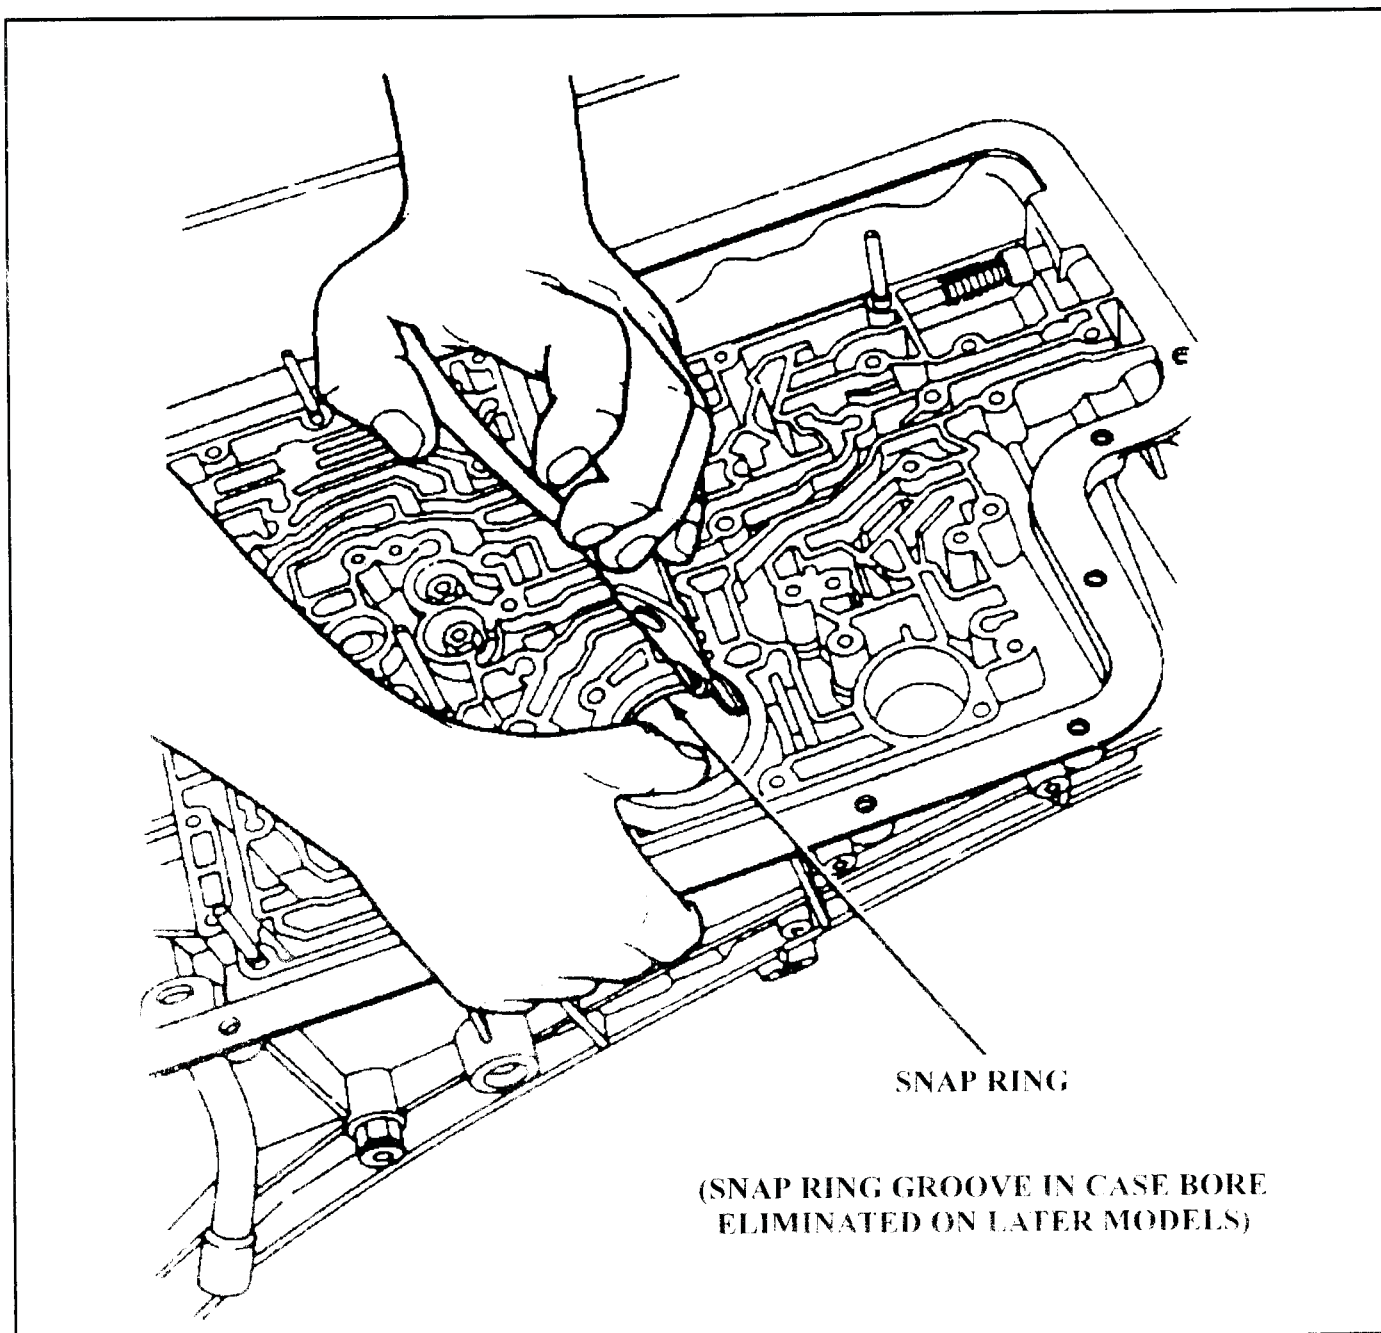

Figure 62
- (4) TRANSMISSION CASE - Snap ring groove in the case piston bore was eliminated, as it was no longer need (See Figure 62).